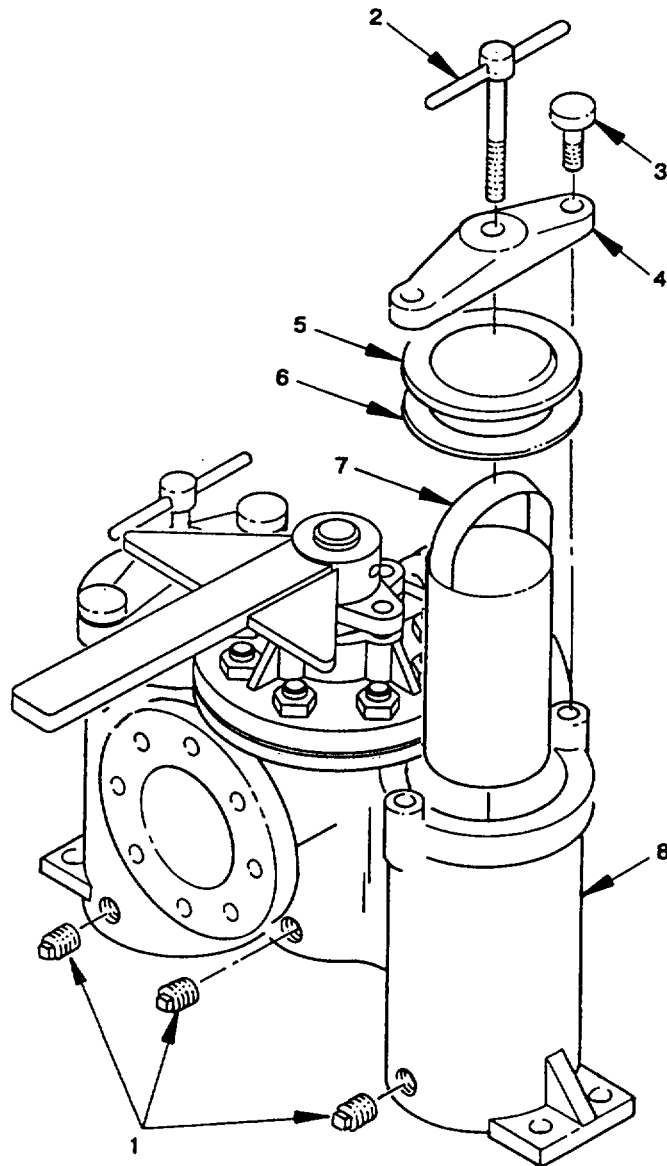

Figure 2-2. Duplex Strainer, Service
a. Service. (figure 2-2).
- (1) Close all valves within the raw water cooling system.
- (2) Place a catch pan under duplex strainer. Remove pipe plugs (1) from duplex strainer and drain.
- (3) Remove yoke handle (2), two yoke studs (3) and yoke (4).
- (4) Remove body cover (5), body cover gasket (6) and basket (7) from the integral body (8).
- (5) Rinse basket with clean water.
- (6) Install basket (7) into integral body (8); and install new gasket (6), and body cover (5).
- (7) Install yoke (4), two yoke studs (3) and yoke handle (2).
- (8) Repeat steps (3) through (7) for the other strainer.
- (9) Install pipe plugs (1) and OPEN all cooling system valves.
- (10) Clean up any spills.